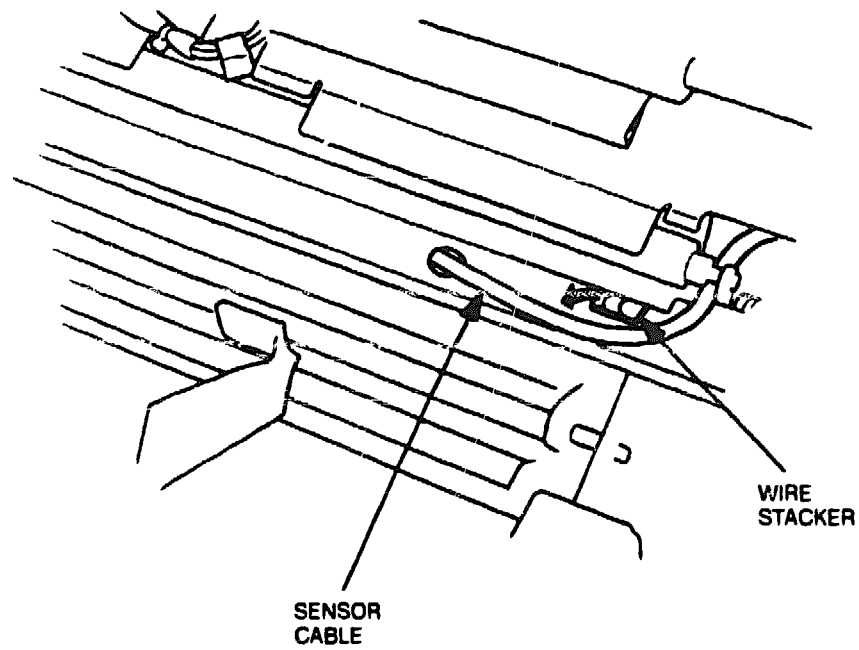

Figure 6-79 Sensor Cable
5. Remove the sensor cable from the wire sticker on the lower-base plate (see Figure 6-79).